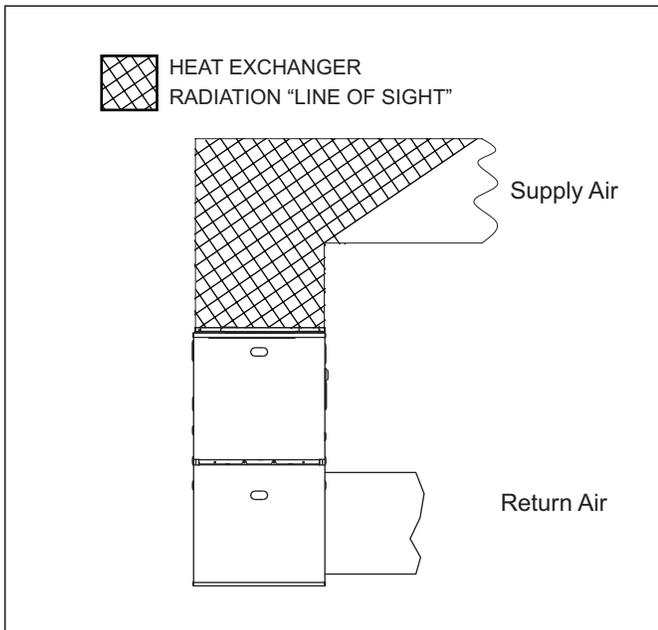

Figure 56 Temperature rise measurement
2. Place thermometers in the return and supply ducts as close to the furnace as possible. Thermometers must not be influenced by radiant heat by being able to "see" the primary heat exchanger (see Figure 56).